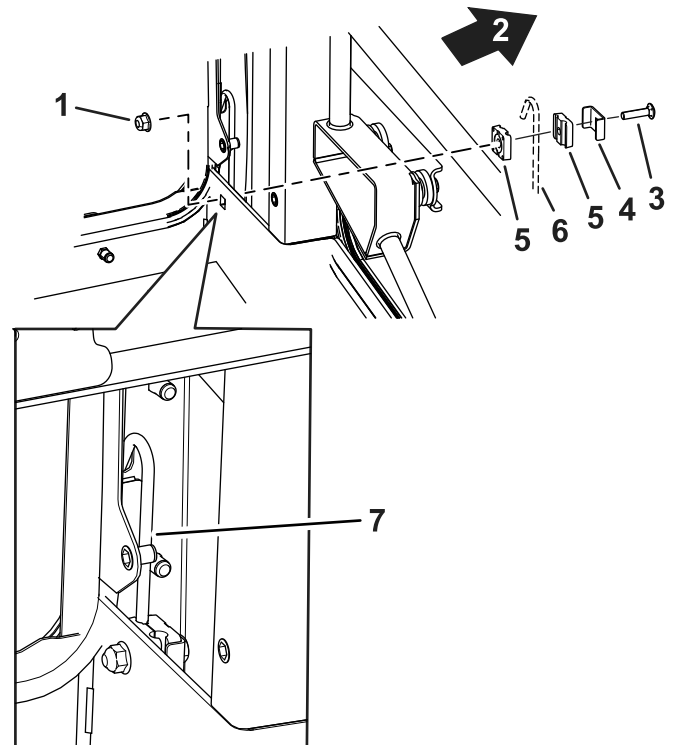

Figure 16
- 7. While lowering the cab, position the vent tubes through the rear posts (Figure 16).
1. Install the vent tubes to each side of the cab. Refer to Figure 16.
2. Secure each vent tube with a bolt (5/16 x 1-1/2 inch), a plate clamp, a tube clamp, and a nut (5/16 inch) (Figure 16).